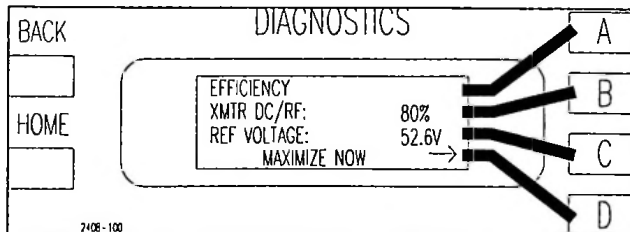

Figure 2-17 Efficiency Status [HOME, METERING D,C]
- **Manual Mode** - In the Diagnostics Display, under Configuration, there is a menu screen which can be used to optimize the transmitter efficiency. To optimize efficiency press [HOME, METERING D,C then D for Maximization]. See Figure 2-17.
The REF VOLTAGE in Figure 2-17 is merely an internal reference point the controller uses to reduce the supply voltage in optimized mode. This reading is usually in the low 40's when the transmitter is optimized (well below the actual supply voltage).